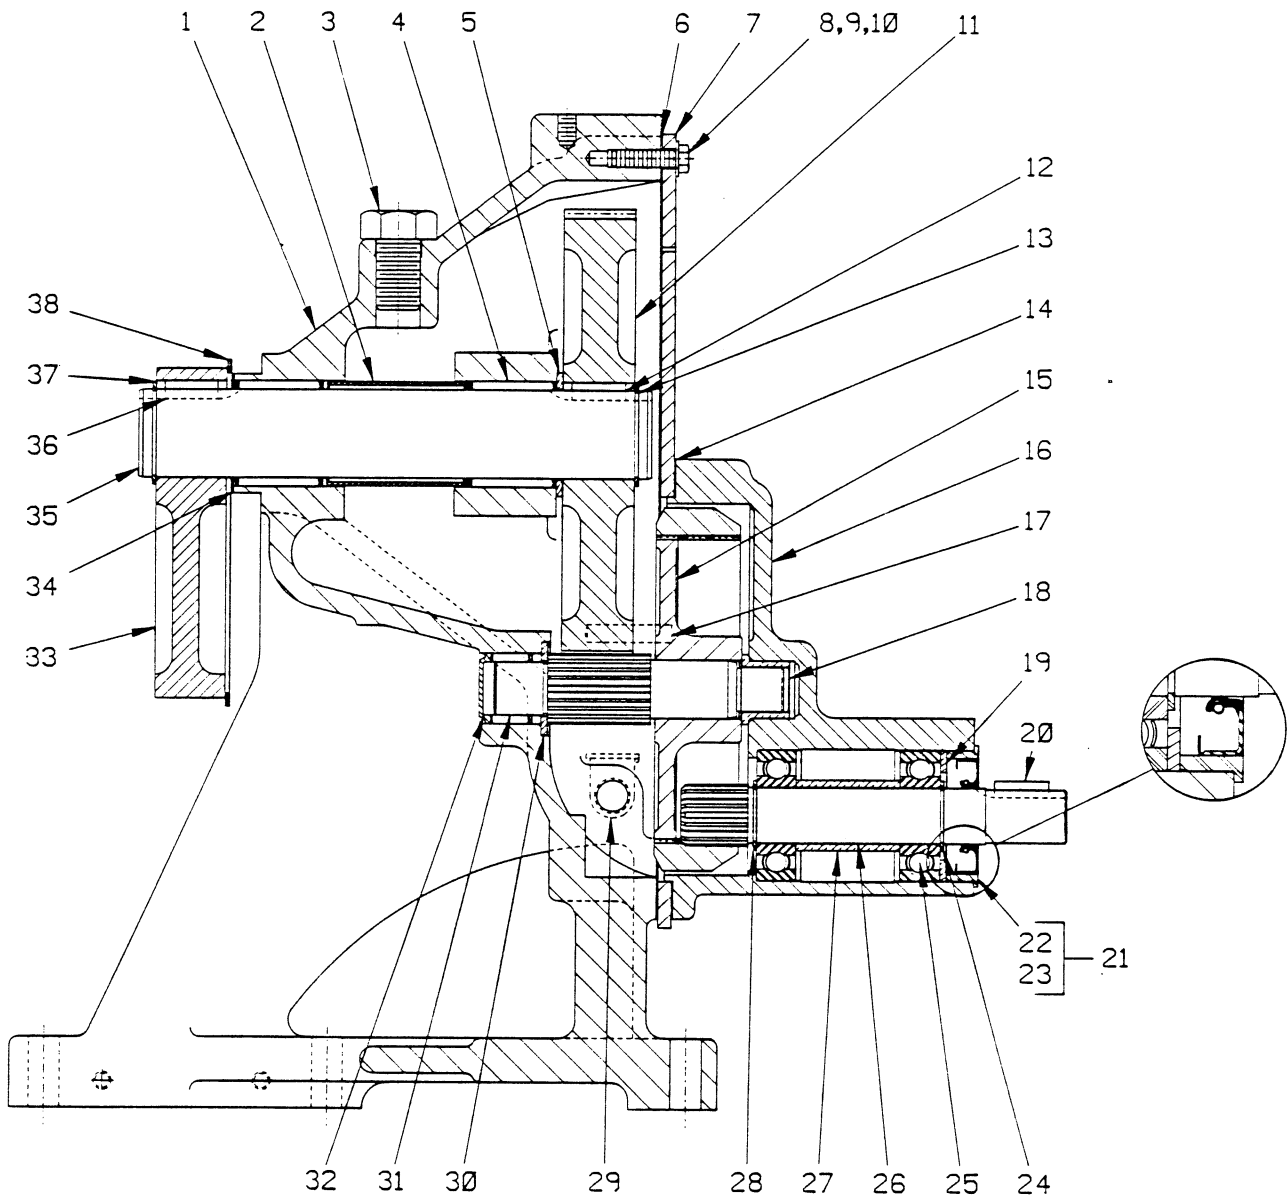

Figure 4. 44161-008 Gearbox Assembly
Remove the retaining ring (6) and slide the plunger rod assembly (31) off the eccentric cam (15, Figure 4).
Disengage the hardware (24, 25, 26 and 27) and remove the coupling guard (11). Loosen the hardware securing the coupling (12) and separate the halves. Remove the gearbox assembly, and slide the coupling half off the pinion drive shaft (26, Figure 4).
(Figure 4)